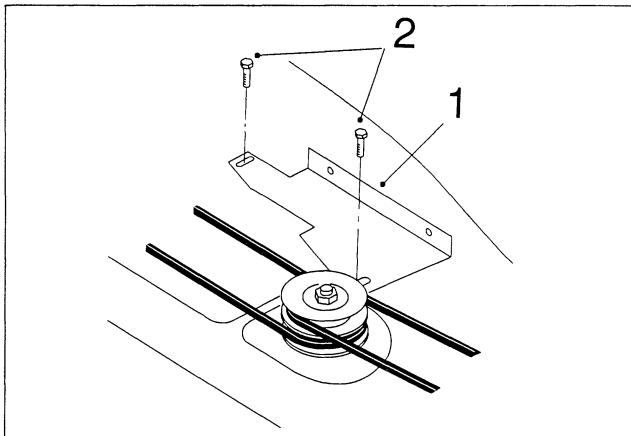

Figure 7
1. Install the mower belt-cover bracket (Fig. 7). Mount the belt-cover bracket using two $1\frac{1}{4}'' \times 1\frac{1}{2}''$ thread-forming hex-head flange screws in the same holes that the original cover used.